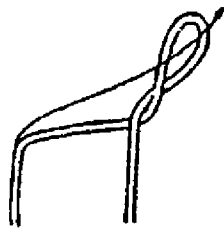

Fig. 3-16-2
- b. Twist once more. (Fig. 3-16-2)